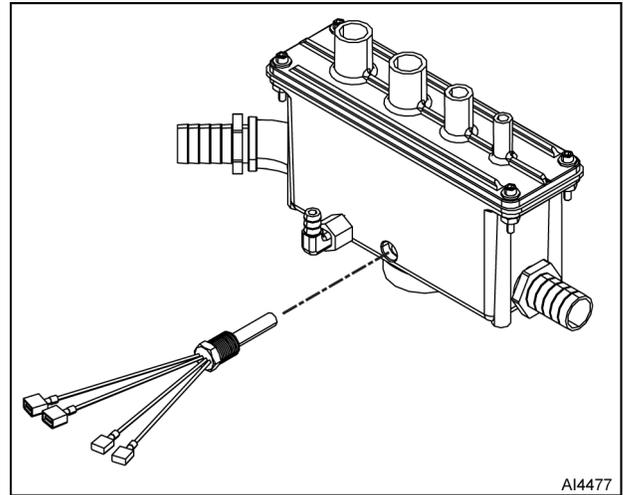

Fig. 21
8. Remove condensate thermostat (Fig. 21) from drain box.